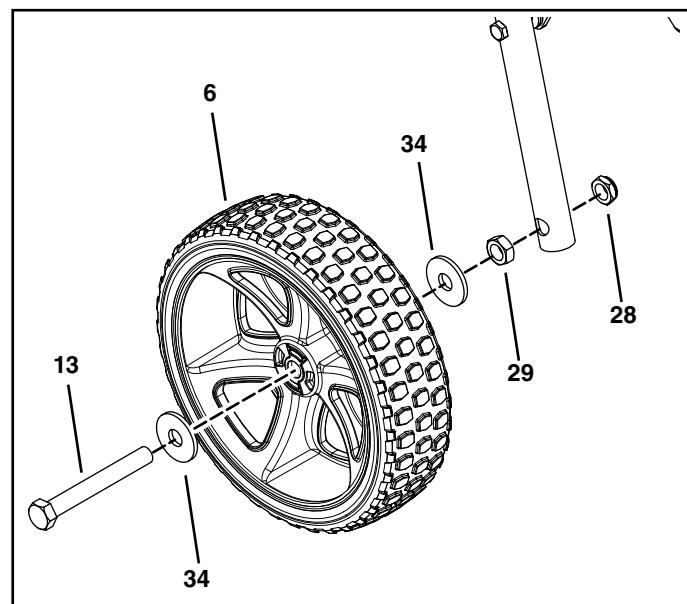

**FIGURE 4**
- On the left side, insert a 5/16" x 3-1/2" hex bolt (14) through the upper hole on the transport tube (10), a spacer (42), and the hitch tube. Secure with a 5/16 nylock nut (27). **Do not tighten yet.** See figure 4.